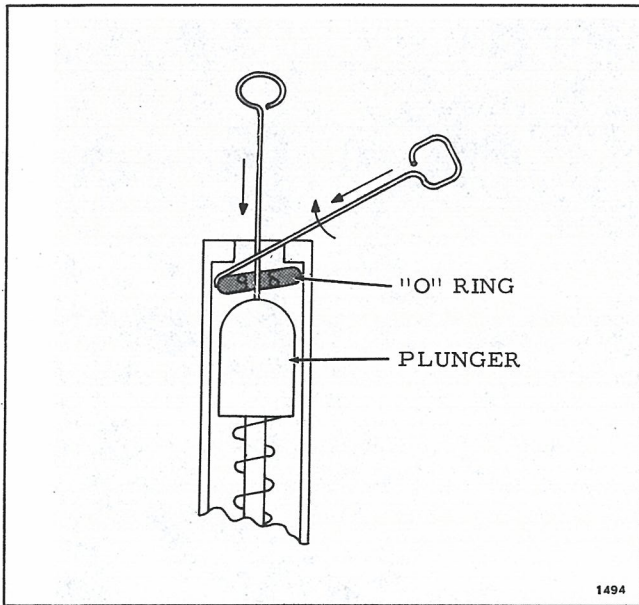

Figure 3-28. Removing "O" Rings
- c. Insert the hooked instrument between the "O" ring and its seat with the hook in a flat or horizontal position. See Figure 3-28.